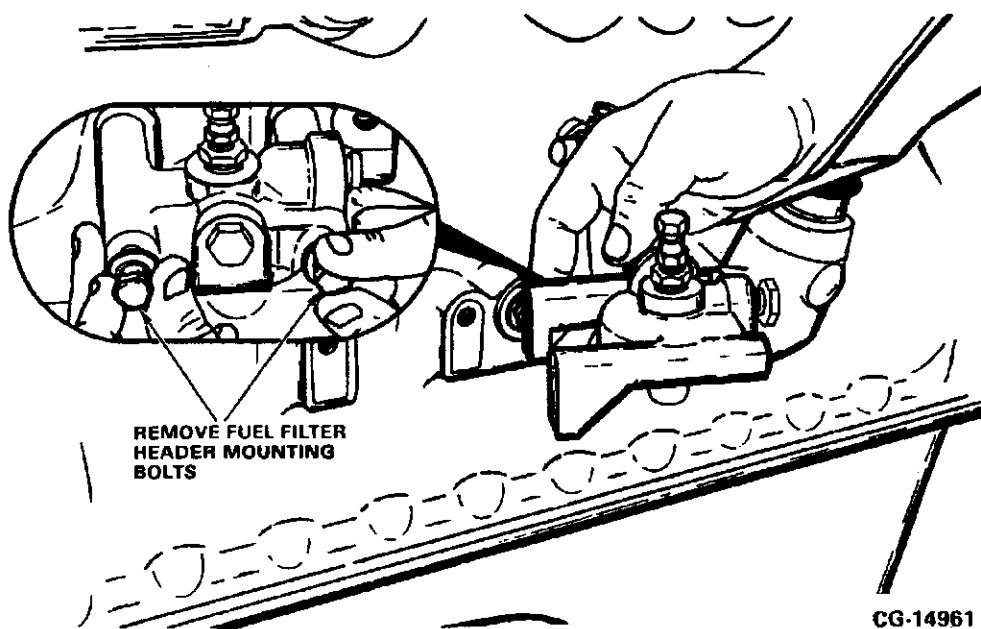

Figure 11.73. Remove Fuel Filter Header
2. Loosen and remove the two mounting bolts which secure the fuel filter header to the crankcase, then remove the header. Refer to Figure 11.73.